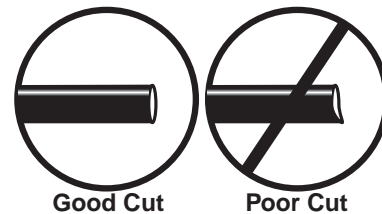

fig. 14
WHEN CUTTING OR TRIMMING THE AIR LINE, USE A HOSE CUTTER, A RAZOR BLADE, OR A SHARP KNIFE. A CLEAN, SQUARE CUT WILL ENSURE AGAINST LEAKS. DO NOT USE WIRE CUTTERS OR SCISSORS TO CUT THE AIR LINE. THESE TOOLS MAY FLATTEN OR CRIMP THE AIR LINE CAUSING IT TO LEAK AROUND THE O-RING SEAL INSIDE THE ELBOW FITTING (FIG. 14).
- a. Check the air line connection by deflating the spring and removing the line by pulling the collar against the fitting and pulling firmly on the air line. Trim 1" off the end of the air line. Be sure the cut is clean and square (see fig. 14). Reinsert the air line into the push-to-connect fitting.